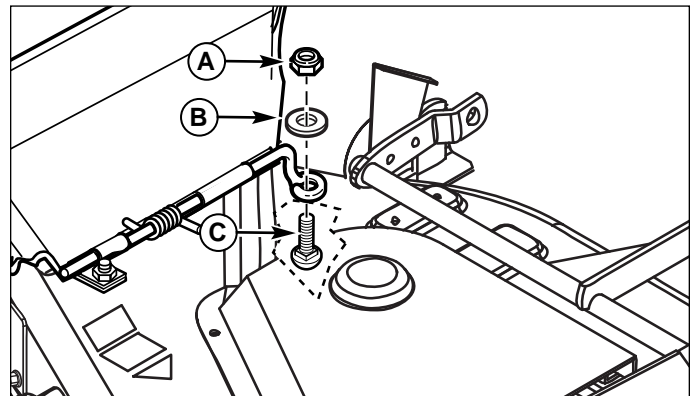

Figure 5. Carriage Bolt Removal
7. Remove and retain 1/4-20 locknut (A, Figure 5) and 1/4 washer (B). Remove and discard 1/4-20 x 1 carriage bolt (C).